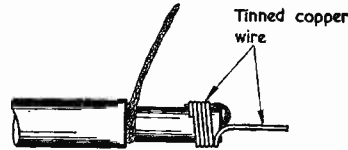

Fig. 2. The cable end before soldering the inner wire
5. Take a length of tinned copper wire (20 or 22 s.w.g.) and wrap it tightly round the strands and insulation, leaving a piece projecting to provide the inner connections. See Fig. 2.